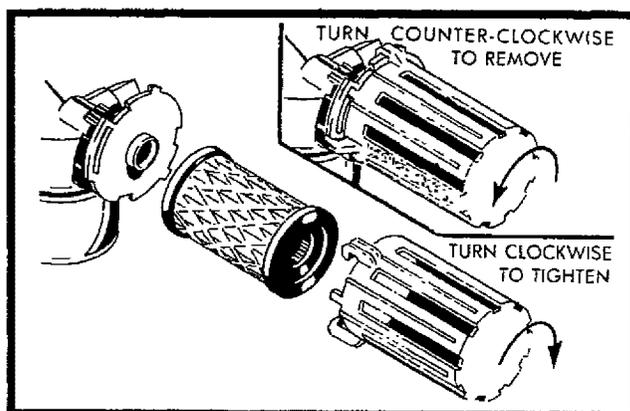

FIG. 12
- Remove the air filter cover by turning counter-clockwise to the stop and pull away from collar (See Fig. 12).
- Remove filter from inside of cover (See Fig. 12).
- Push in on cover and turn clockwise to tighten (See Fig. 12).